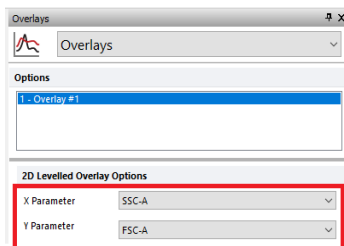

Figure 3 - Formatting parameters for Scatter Plots in Overlays dialog.
- 5.) Click on the **Format** tab→**Overlays** icon. In the **Overlays** format window change the **X** and **Y** parameters to desired parameters to display and gate for the “Scatter” population of interest (Figure 3).